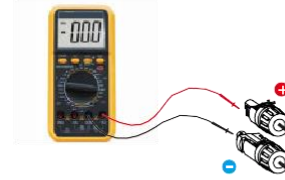
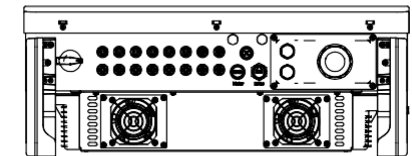

Figure 5.16 Multimeter measurement
Figure 5.17 Connect the DC Connectors to the Inverter
5. Measure PV voltage of DC input with multimeter, verify DC input cable polar (see figure 5.16), and ensure each string of PV voltage in range of inverter operation. Connect DC connector with inverter until hearing a slight clicking sound indicates connection succeed. (see figure 5.17)